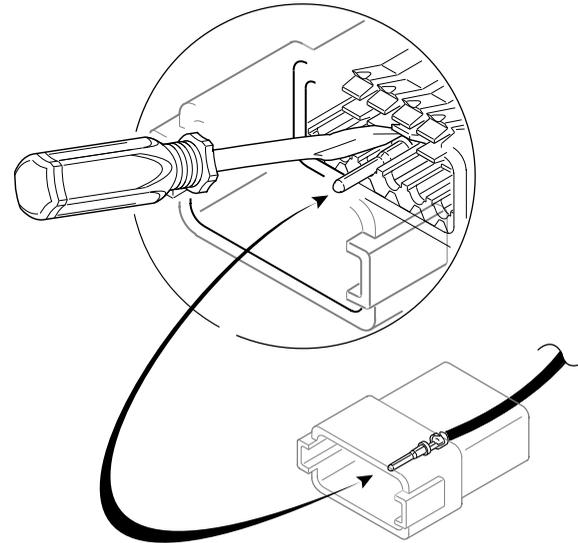

Figure A-21. Deutsch Connector: Depress Terminal Latch and Back Out Pin
- See Figure A-21. Use a pick or small screwdriver to depress terminal latches inside socket housing and back out sockets through holes in rear wire seal.